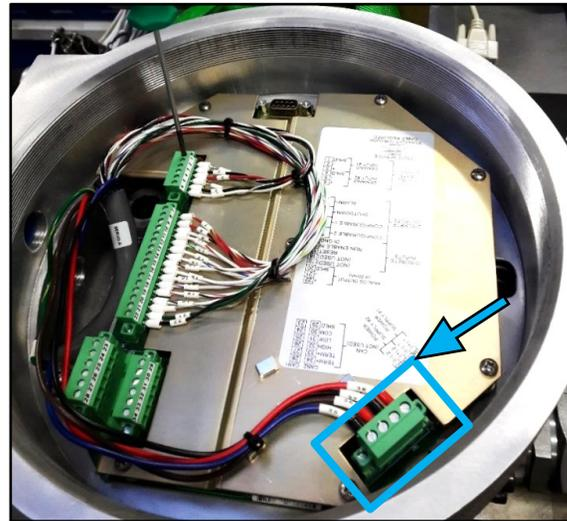

Figure 2-14. Power Connector Placement Inside VariStroke
33. Unscrew cables from VariStroke power terminals #35 to 38 (use slotted screwdriver; 3.5 X 0.6 mm tip size) (Figure 2-14).